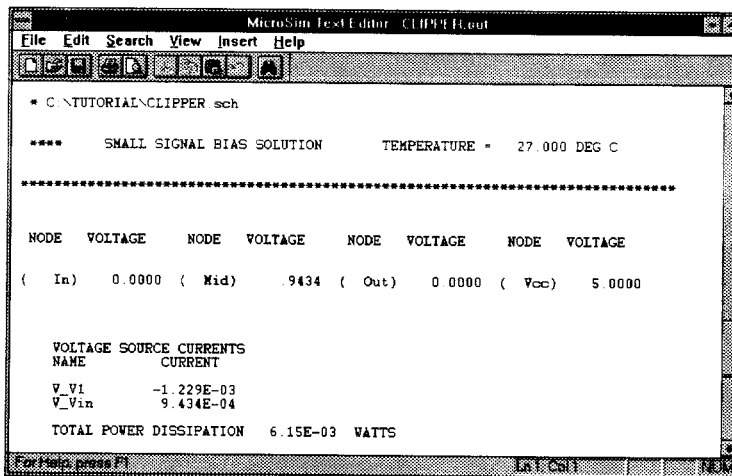

Figure 2-4 Simulation Output File
- 2 In Schematics, select Examine Output from the Analysis menu to display the output file in the MicroSim text editor window. Figure 2-4 shows the results of the bias point calculation as written in the simulation output file (clipper.out).